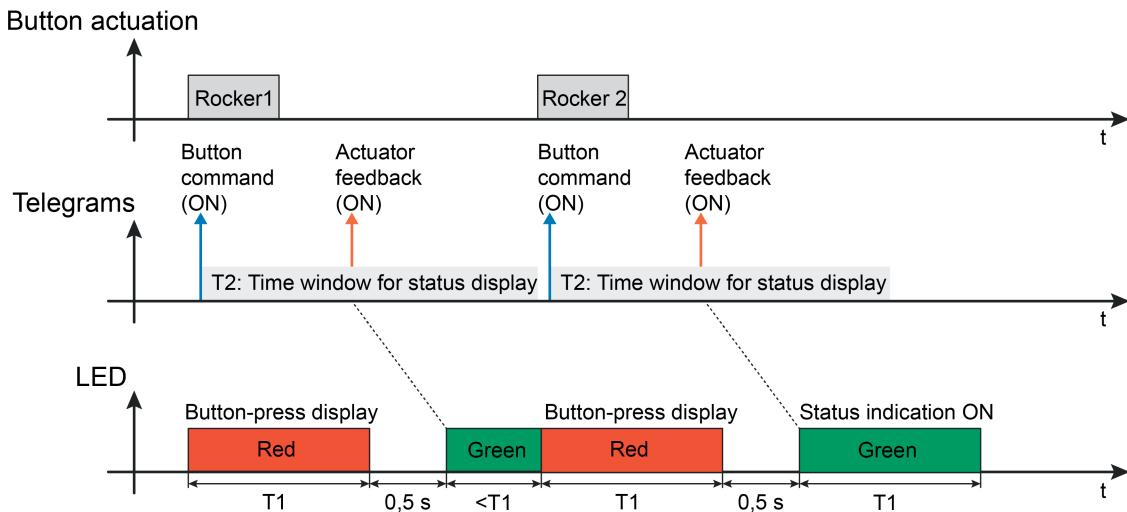

Figure 10: Example of a two-level actuation and status display
- i** In the "Switching" function, the operating concept can be configured as "Rocker function" or alternatively as "Push-button function". With a button function, each operating area can possess one status object (left button, right button). This means that different actuator feedback can be signalled. However, it should be ensured that both status objects activate the same status LED. The display functions of both buttons of an operating area do not override each other. A new button-press always interrupts an executed display function immediately (figure 10).
button will interrupt the executed display function immediately and at any time (figure 10). Cancellation can also occur if no status has been signalled for the started display function.